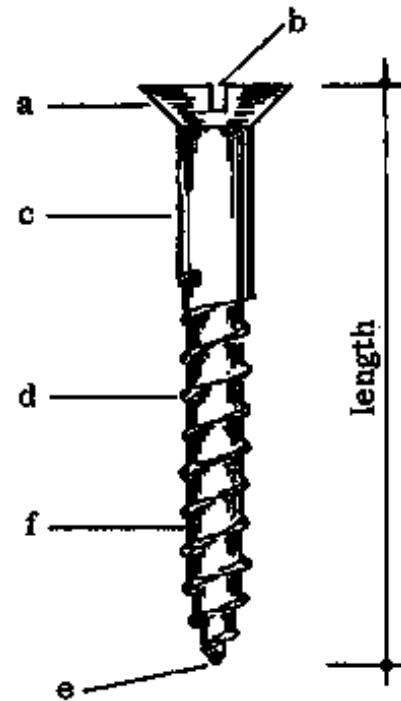

Fig. 1
- Countersunk head screws (Fig. 1, page 210)**
- COUNTERSUNK HEAD SCREWS: The head of this kind of screw is flat on top and tapering underneath. The length is measured from the point to the top of the head (Fig. 1, page 210).